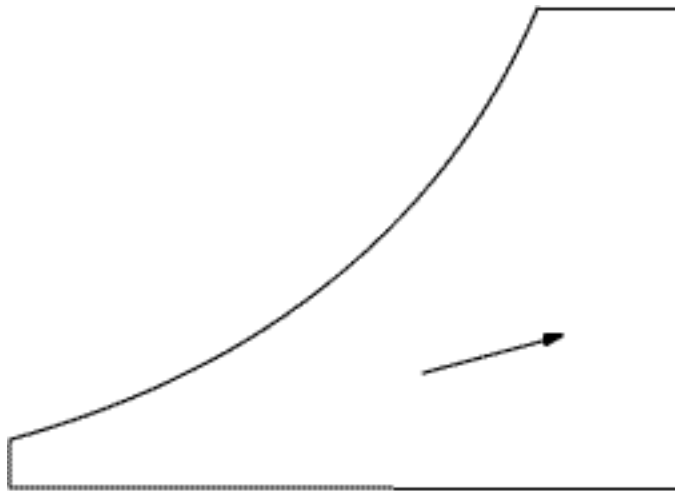

Figure 3.7. Heating and Humidifying.
5. Heating and Humidifying: Is the typical process that takes place on winter. The air picks up both heat and moisture as it passes through the heating device. The total heat and wet-bulb and dew-point temperatures all increase. (figure 3.7)